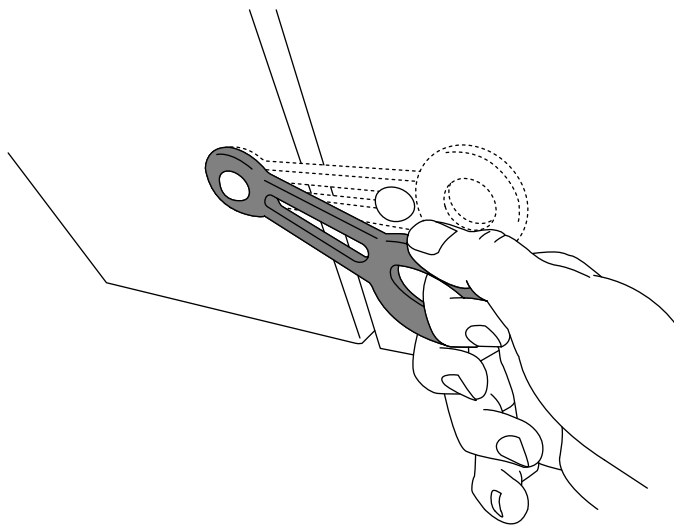

Figure 12
4. Close the cowl and secure the cowl latches (Figure 12).